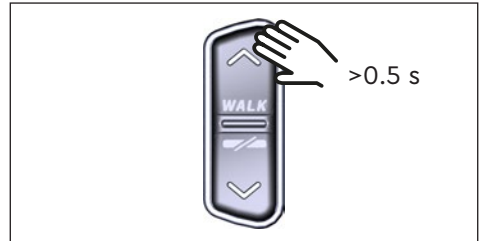

Fig. 9: Activate walk assist
- ▶ When the e-bike is at stand-still, press the UP button on the Remote for longer than 0.5 s (see Fig. 9) to activate the walk assist.